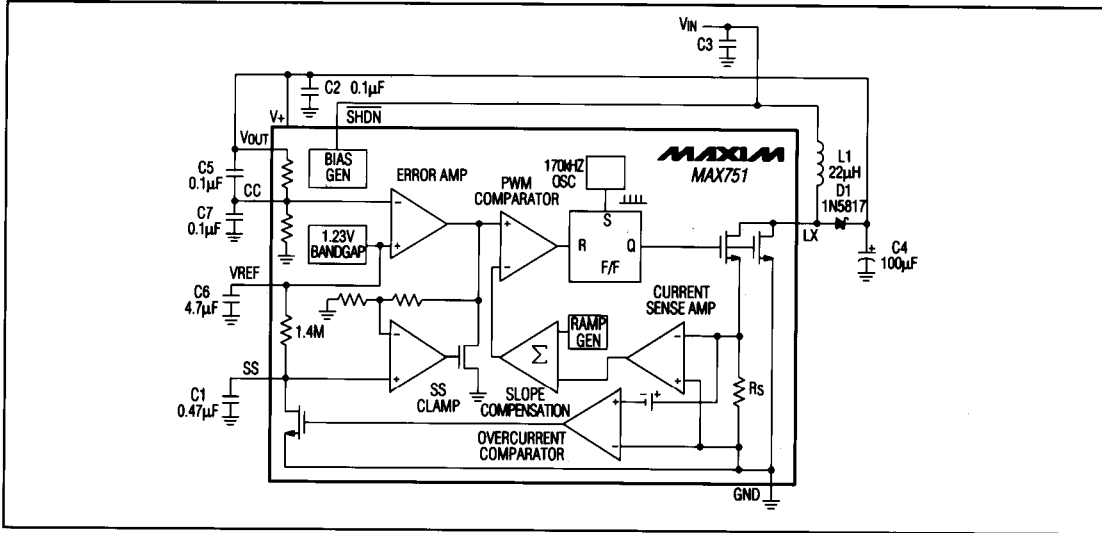

Figure 1. Detailed Block Diagram with External Components, Bootstrapped Mode
(Circuit of Figure 1, VIN = +3V, ILOAD = 0mA, TA = TMIN to TMAX, typical values are at TA = +25°C, unless otherwise noted.)
(Circuit of Figure 1 in bootstrapped mode, L1 = 22μH, TA = +25°C, unless otherwise noted.)
(Circuit of Figure 1 in bootstrapped mode,  $L_1 = 22\mu\text{H}$ ,  $T_A = +25^\circ\text{C}$ , unless otherwise noted.)
The controller consists of two feedback loops: an inner (current) loop that monitors the switch current through the current-sense resistor ( $R_S$ ) and amplifier, and an outer (voltage) loop that monitors the output voltage with an error amplifier (Figure 1). The inner loop performs cycle-by-cycle current limiting, truncating the power transistor on time when the switch current reaches a threshold determined by the outer loop. For example, a sagging output voltage produces an error signal that raises the threshold at the error amp output. This allows the inductor current (which generates the current-sense amp output voltage) to increase, resulting in more energy stored and transferred during each cycle.
The Soft-Start (SS) pin limits power-up current, allowing proper start-up with a load on the output. On power-up, the MAX751 uses the maximum switch duty cycle to draw excessive current to charge the output filter capacitor, and supply current to the load. In this case, the device may stall and the output voltage will not rise to 5V. A capacitor (between 0.047µF and 5µF) is required on SS to ensure proper start-up. The larger the capacitor, the slower the internal current-limit threshold is raised, allowing more time for start-up. As the voltage on the SS pin increases, the voltage at the SS clamp output increases, which in turn increases the current-limit threshold (Figure 1).
Use a Schottky diode with a continuous-current rating of at least 500mA for full-load ( $\geq 200$ mA) operation. The 1N5817 is a good choice. The two compensation capacitor values at the CC input are critical because they have been selected to provide the best transient response. The input capacitor (C3 in Figures 1, 2, and 4) may be omitted if the power supply impedance is very low. Otherwise, up to 100 $\mu$ F may be necessary.
The power-up SS charge rate is determined by the time constant formed by the SS capacitor and the internal 1.4MΩ ±25% resistor between VREF and SS (Figure 1).